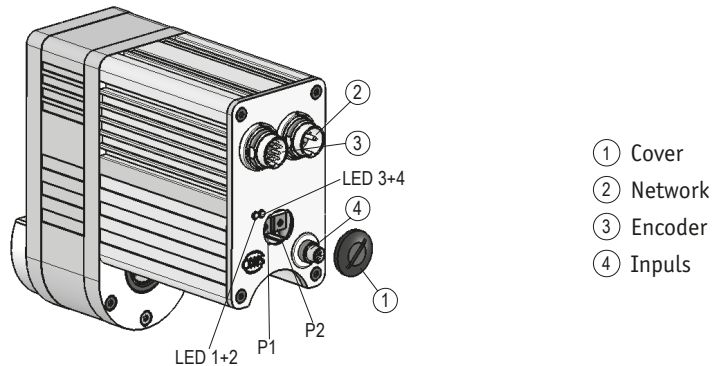

Fig. 13: Setting the trimming potentiometer PWM
- ▶ Due to the type of protection, only the covers ① may be loosened (see Fig. 13).
- ▶ With the cover ① loosened, the drive's type of protection is no longer ensured.
- ▶ When remounting the covers ① take care that the seal are seated correctly!